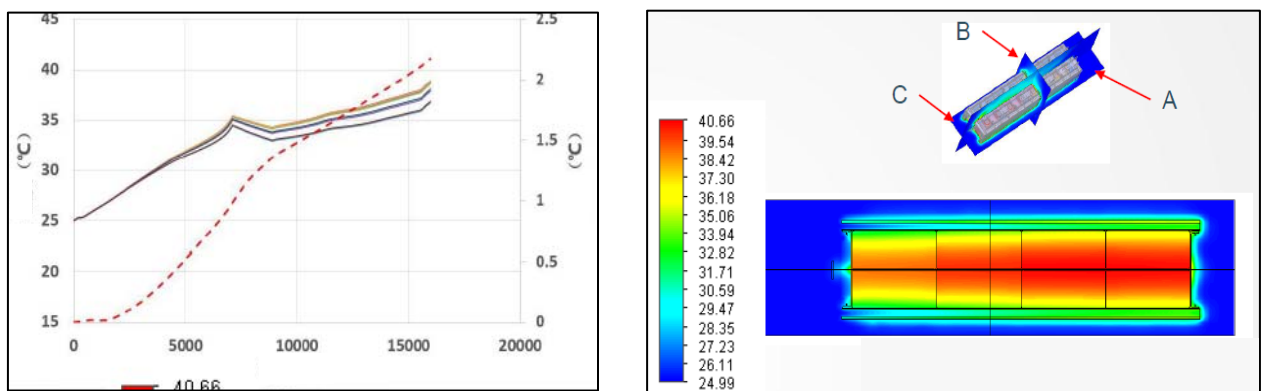

Figure 3 Computational Fluid Dynamics Module Simulation Results
- Figure 3 Computational Fluid Dynamics Module Simulation Results 6